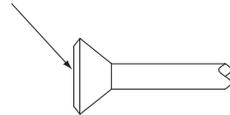

Fig. 14
- When making a flare connection, coat the flared inner surface only with ether oil or ester oil. (Refer to Fig. 14)